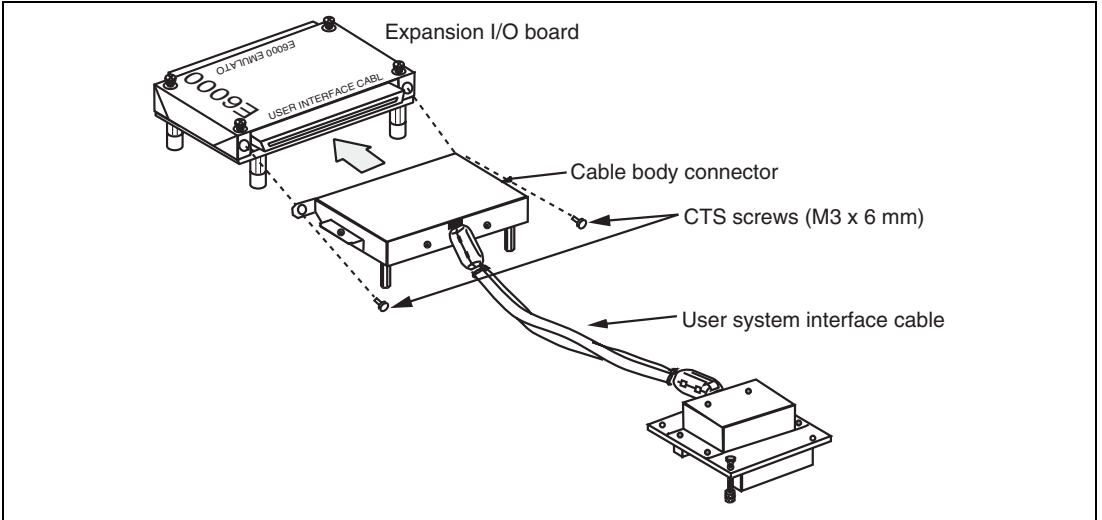

Figure 2 Connecting User System Interface Cable to Expansion I/O Board
2. After making sure the direction of the cable body connector is correct, firmly insert the cable body connector into the expansion I/O board socket (written as USER INTERFACE CABLE), and fasten the expansion I/O board with two CTS screws (M3 x 6 mm). (figure 2)